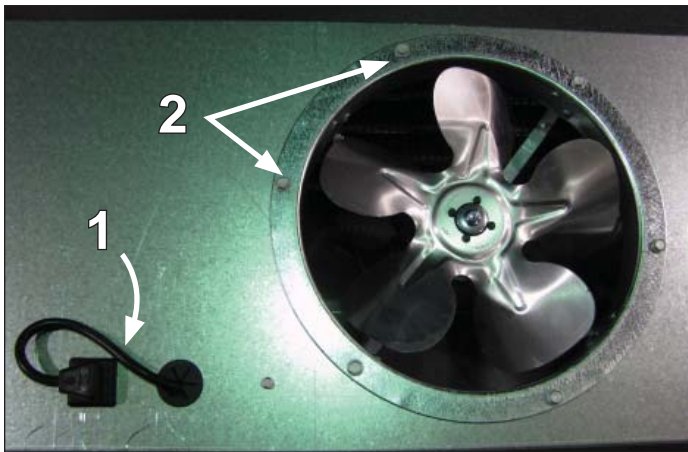

Fig. 11 Fan basket
1. Unplug the fan motor (Fig. 11), easily accessible outside the plenum. Be certain to push power cord back through plenum opening to avoid damage to power cord.